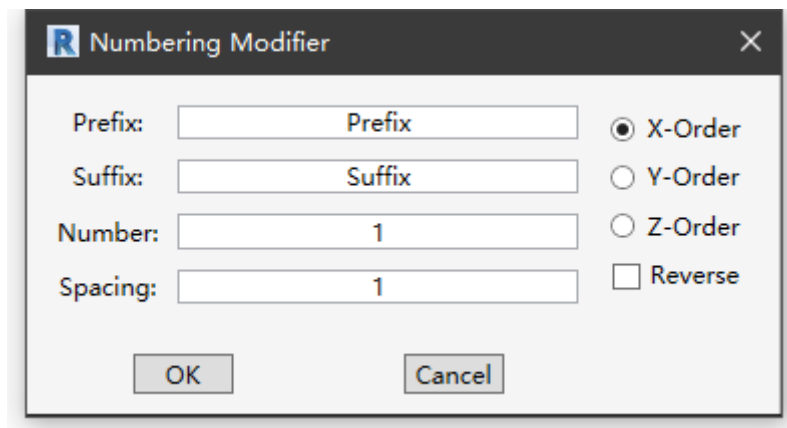

Figure 5.1 Numbering window
3. Type desired format and select order in the window below (Figure 5.1) to number, only integer is available in the number and spacing block.